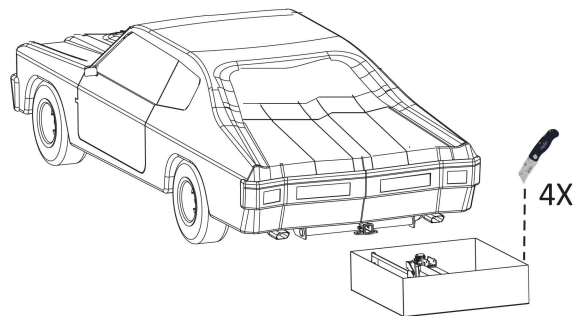

Figure 13-1
2. Position the open box behind the vehicle. Slice the corner seams. [Figure 13-1]